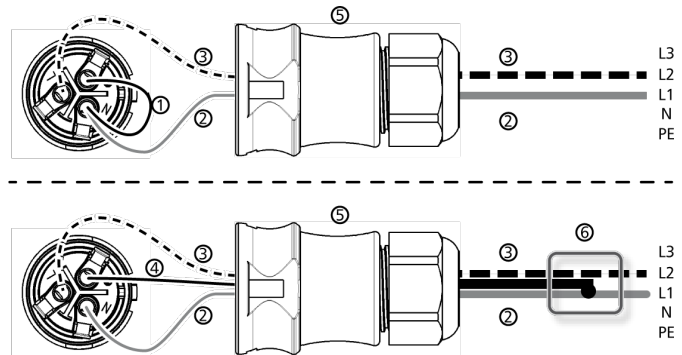

Fig. 12: Connection of N and PE in the AC plug (above) or junction box (below)
- N and L are connected between the L1 – L2 external conductors at the inverter side. See ② and ③ in Fig. 12.
Fig. 12 shows an example of an inverter-side connection between L1 and PE:
2. ➞ Connect one of the two connected phases to PE at the inverter side. Make this connection inside the AC plug or use an external junction box, as shown in Fig. 12.